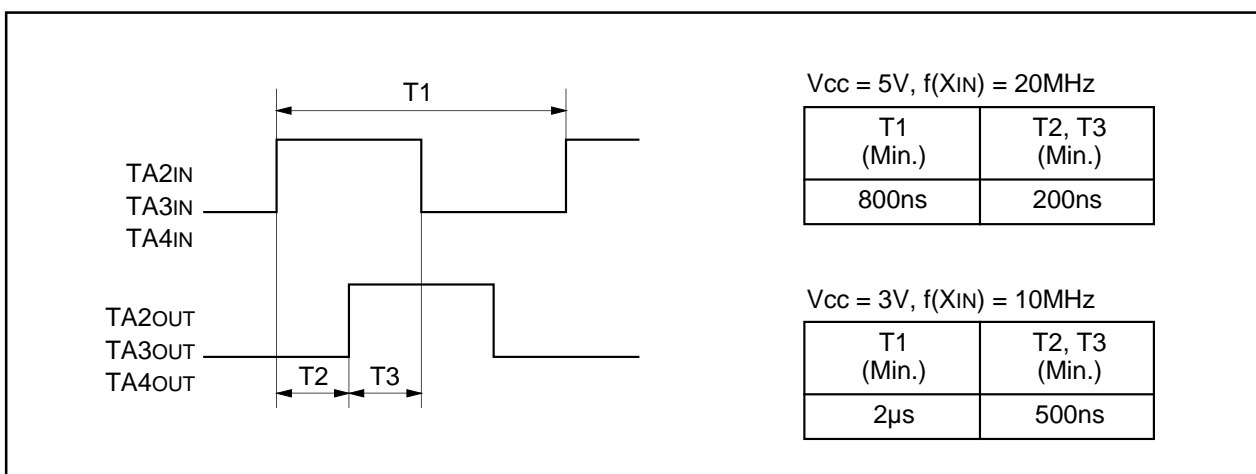

Figure 2.2.30. Standard of 2-phase pulses
- (3) Please note the standards for the differences between the 2 pulses used in the two-phase pulse signals input signals to the TAiIN pin and TAiOUT pin (i = 2, 3, 4), as shown in Figure 2.2.30.
- (4) When free run type is selected, if count is stopped, set a value in the timer Ai register again.